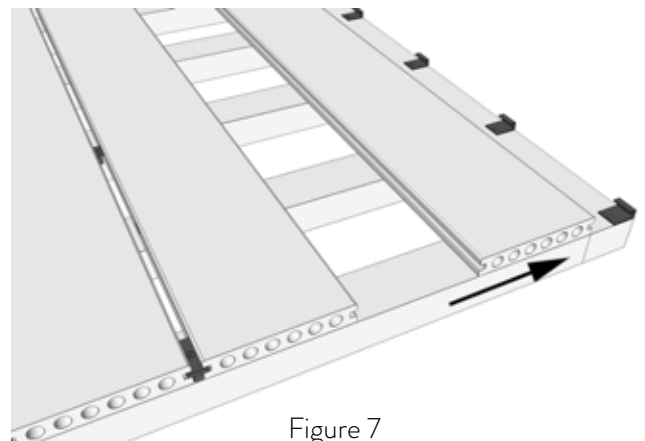

Figure 7
- 5 Install the tailboard, as shown in Figure 7: